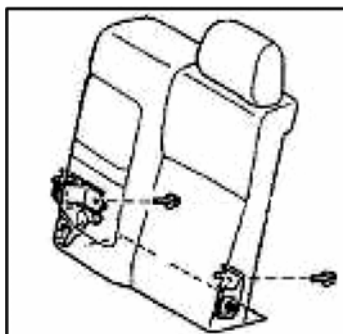

Fig. 7-11
(3) Remove the left rear seat back assembly, as shown in Fig. 7-11.